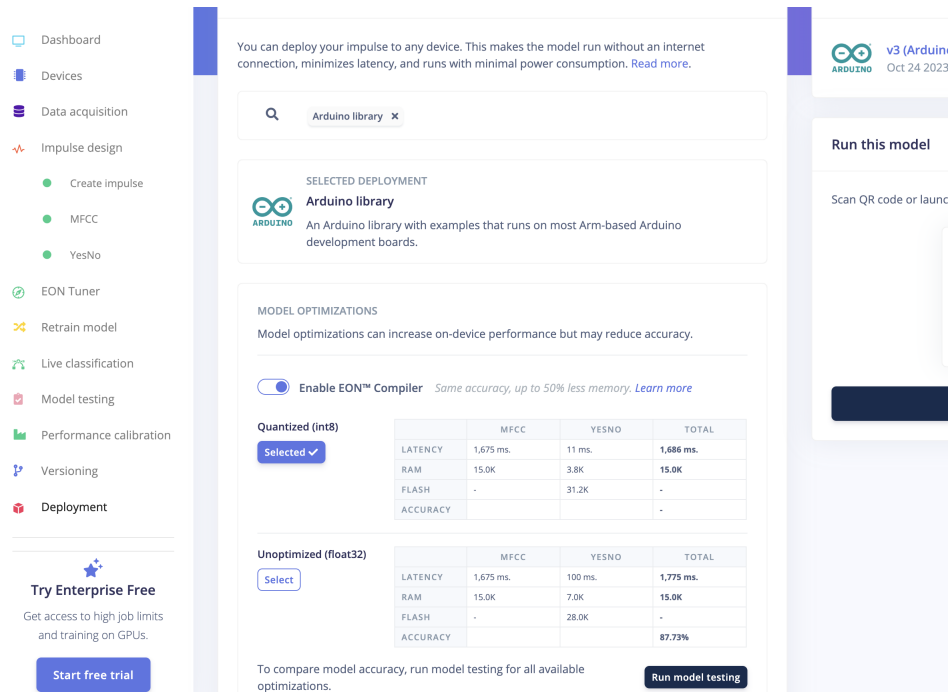

Figure 9.5: This shows a model read to build as an Arduino library.
28. Search deployment options for Arduino library so that it looks like Figure 9.5